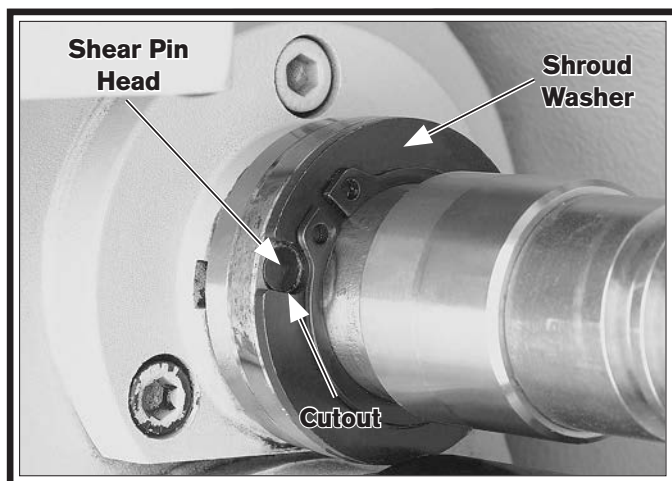

Figure 140. Shroud washer and shear pin alignment.
3. Rotate the shroud washer on the leadscrew (see **Figure 140**) so that the cutout lines up with the shear pin head.